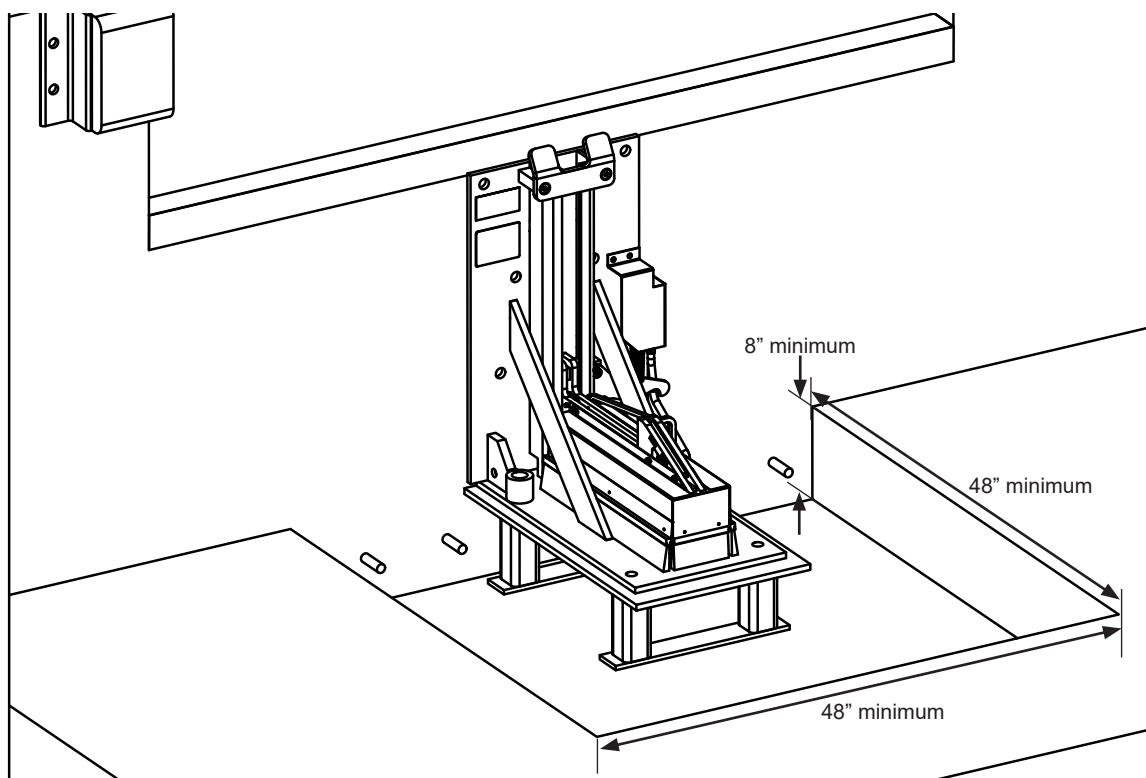

Figure 13
Note: Driveway mount requires attachment to a concrete drive greater than 8" thick. For asphalt drives, pour a 48" x 48" x 8" min. concrete pad and include six (6) 3/4" dowels into foundation wall as shown in Figure 13. Then proceed with adhesive anchors or weld plate embed.